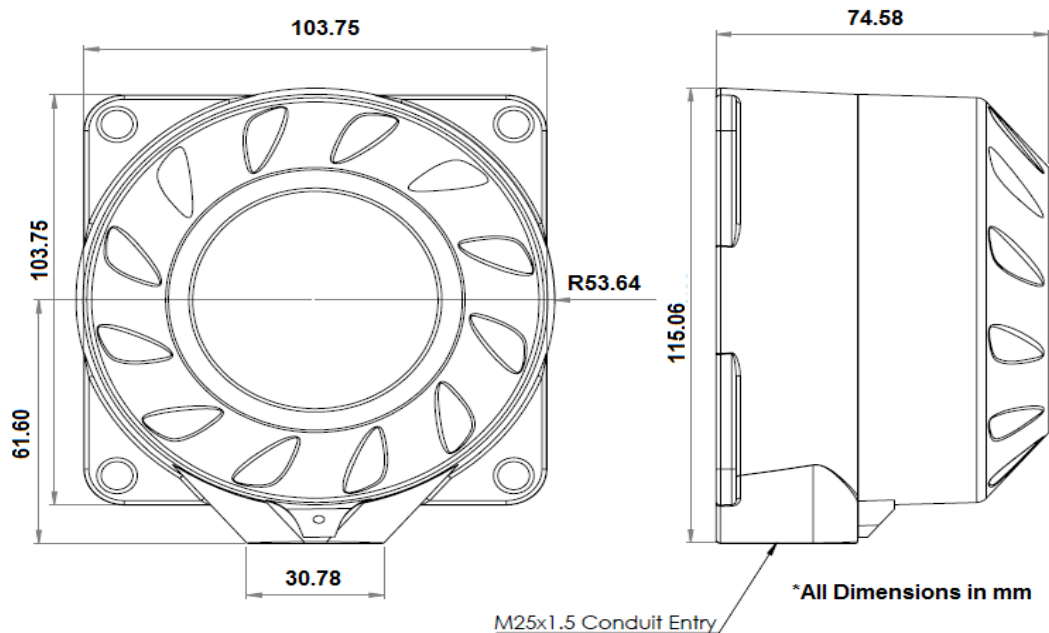

Figure 1 – Detector Dimensions
The **D381** detector is supplied with powder coated Aluminum enclosure. The enclosure has (4) 7mm holes in the rear mounting flange (Figure 1) that can be used to mount the detector directly on a flat surface or onto the optional swivel mounting bracket that allows the detector adjustment in vertical and horizontal axis.